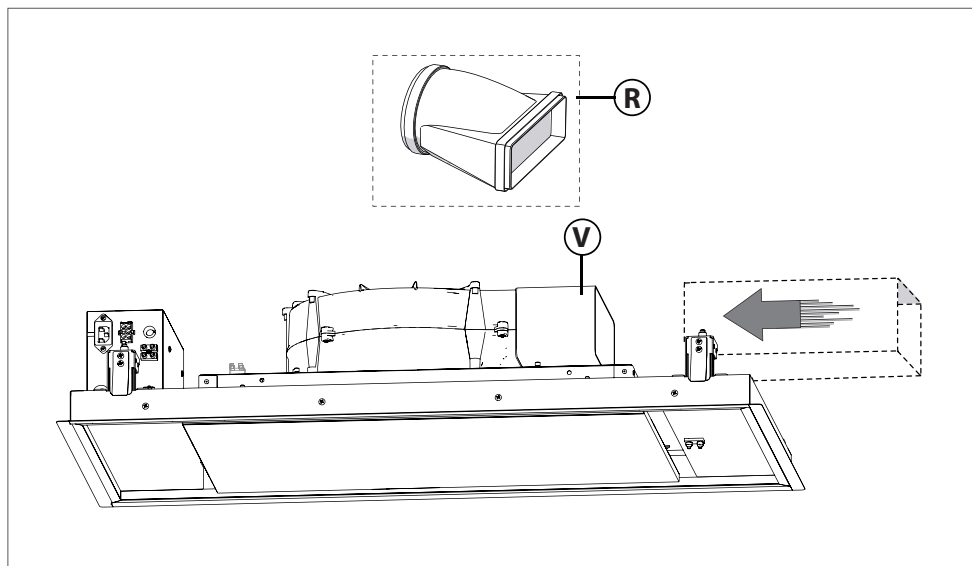

Fig.8
It is therefore necessary to purchase a non-flammable air exhaust tube (not supplied) which complies with all current legislation and connect it to flange **V** (Fig.8).
- Connect the air exhaust tube by means of the flange **V** (Fig.8). Should it be necessary to connect a rectangular air outlet fitting with a Ø 150 round tube, use the flange **R** indicated in (Fig.8), supplied